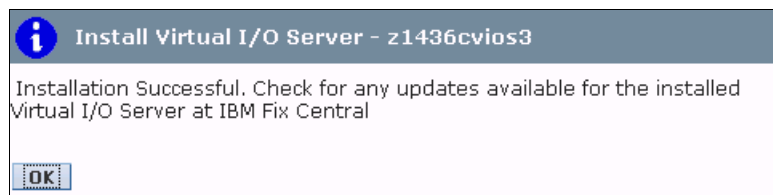

Figure 3-7 Installation success message
10. You see the message that is shown in Figure 3-7 after the installation is complete.